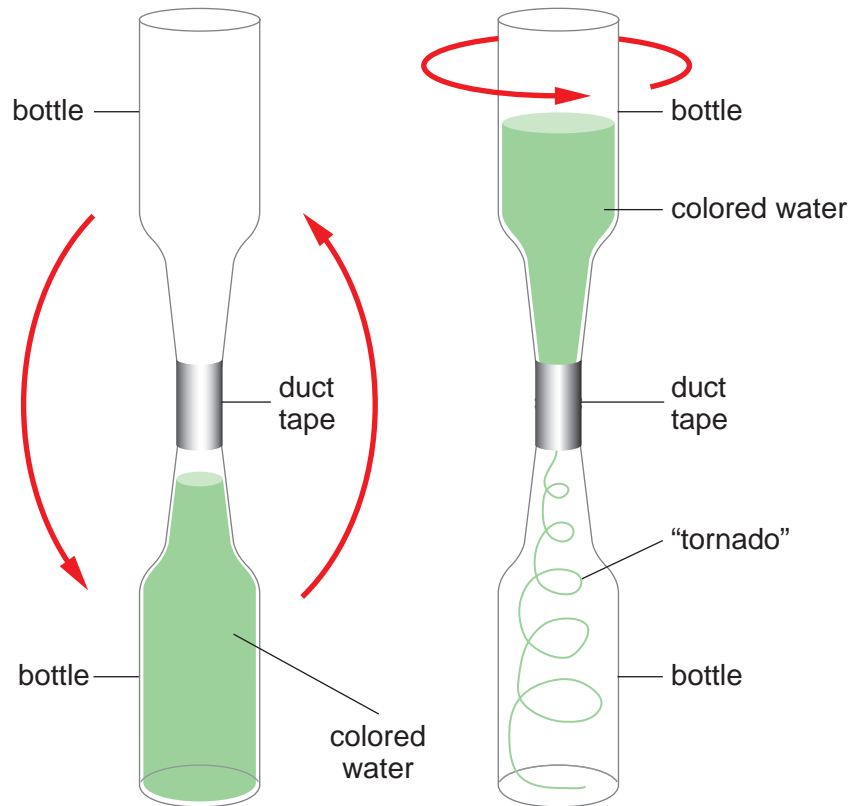

Figure 1
5. Tape the two bottles together securely. Wrap the duct tape around the necks of both bottles several times to ensure that no water will leak out (see Figure 1).